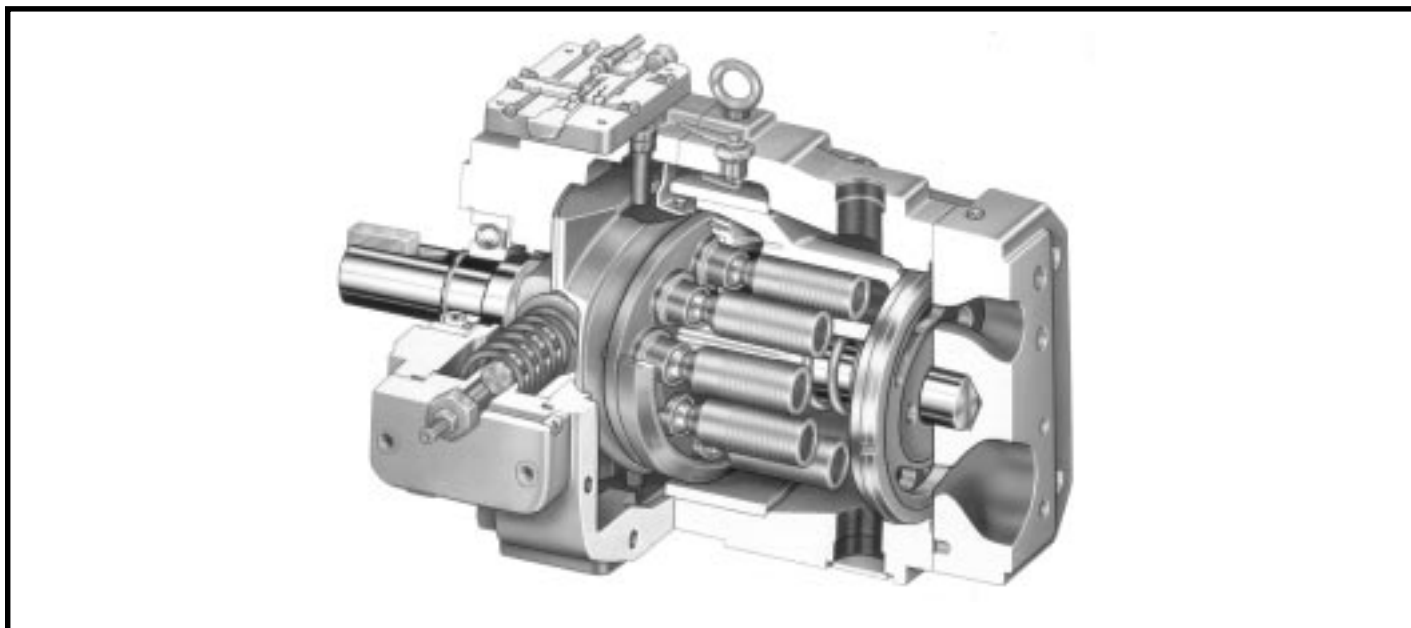

Figure 2. Cut-a-way view of typical Oilgear "PVV" Pump (92012R).
Refer to Figure 2, 7 and 8. A driveshaft (301) runs through the center line of the front (001) and middle (002) pump housing as well as the valve plate (401). The front driveshaft bearing (302) supports one end of the shaft and the rear shaft bearing (403) supports the other end of the shaft. A cylinder barrel (101) is splined to the driveshaft. Pumping piston/shoe assemblies (102) in the cylinder are held against the swashblock wearplate (202) by a shoe retainer (104) and a hold down retainer (203). A cylinder spring (105), bearing against an inner cylinder spring guide (106) and driveshaft (301) acts against the outer cylinder spring guide (107) and a retaining ring (108), which is "snapped" into